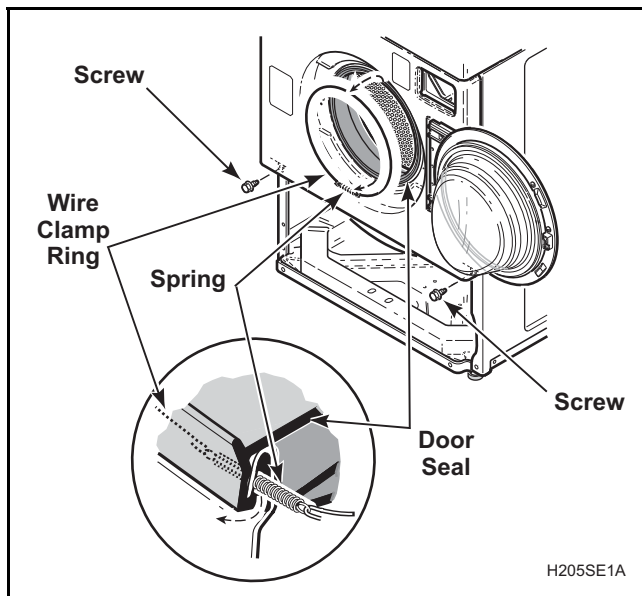

Figure 32
- Open loading door. Carefully remove wire clamp ring from groove with small flat screwdriver. Spring is in 6 o'clock position. Refer to *Figure 32*.
- l. Open loading door. Carefully remove wire clamp ring from groove with small flat screwdriver. Spring is in 6 o'clock position. Refer to *Figure 32*.
- Carefully remove wire clamp ring from groove with small flat blade screwdriver. Spring is located in the 6 o'clock position. Refer to *Figure 32*.